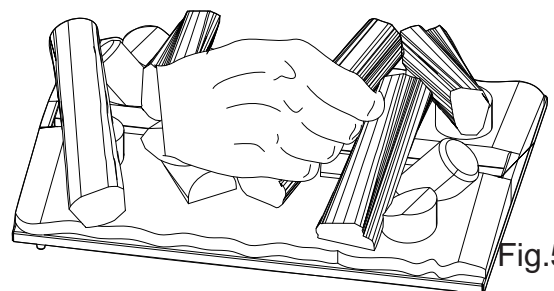

Fig.5
1. Press Switch 'A' to the 'OFF' (0) position
4. Disconnect the electrical connector, located on the right side of the sump. (Fig.5) .